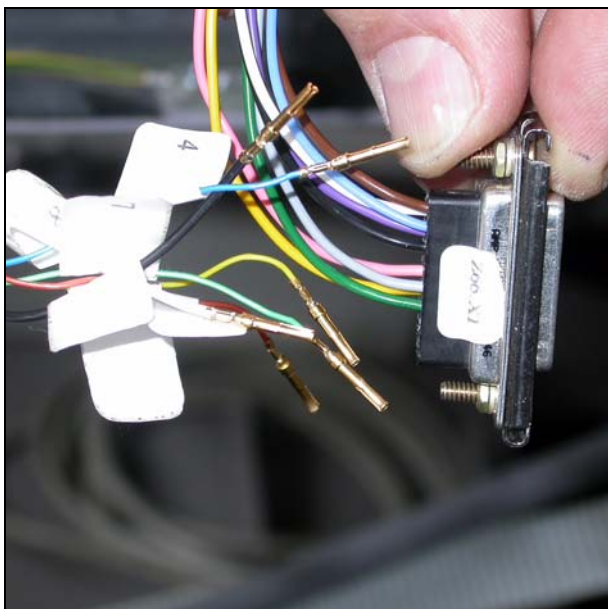

Fig. 17
- Run the loose contacts to the plug Z66 X1, and reinsert them (Fig. 17). Tie the cables using cable ties.